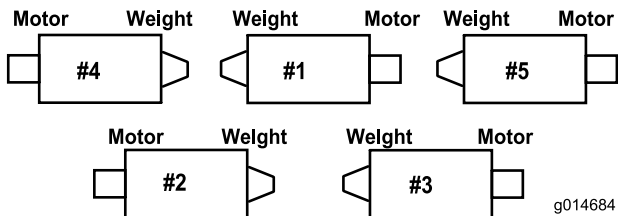
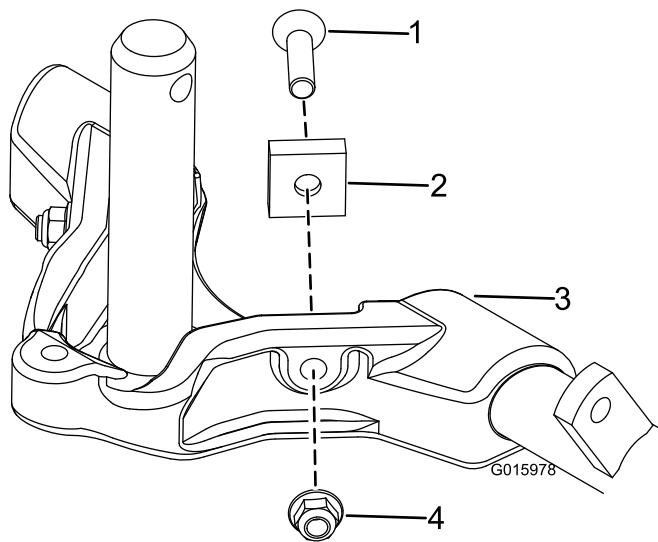

Figure 11
Figure 13
- 6. On 27 inch cutting units only, increase the steering on the rear cutting units by removing the (2) pivot spacers, hex socket screws and flange lock nuts (Figure 13) from the rear (#2 and #3) cutting unit carrier frames (Figure 11).